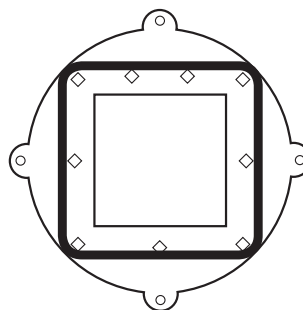

FIG. 2e
- Apply to the Filter Plate (J2); it may partially cover the bolt holes. Make sure that there is enough room for the bolts to push through [FIG. 2e].